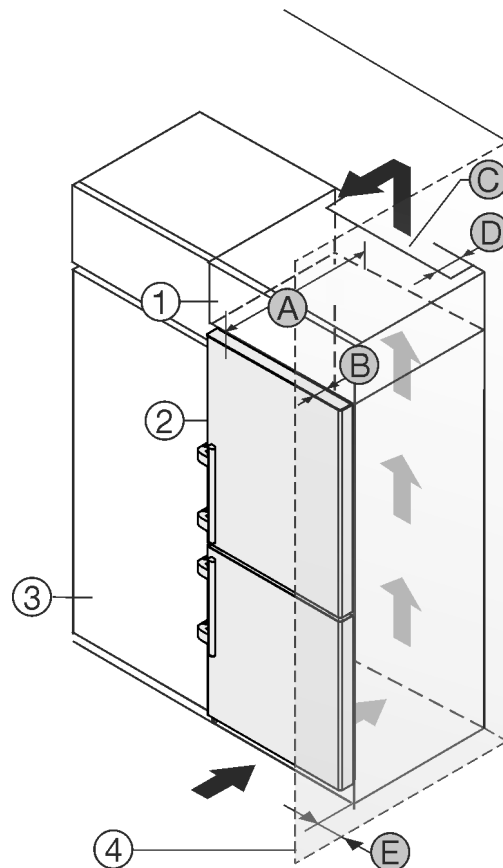

Fig. 2
- (1) Top cabinet * (B) Door depth *
- (2) Appliance * (C) Ventilation cross section *
- (3) Kitchen cabinet * (D) Distance to the back of the appliance *
- (4) Wall * (E) Distance to the side of the appliance *
- (A) Appliance depth *
You can place the appliance directly beside the kitchen cabinet *Fig. 2 (3)*.*
There must be a ventilation shaft at the depth *Fig. 2 (D)* of the back of the top cupboard over the entire width of the top cupboard.*
The ventilation cross-section *Fig. 2 (C)* must be maintained under the ceiling.*
If the appliance is set up with the hinges next to a wall *Fig. 2 (4)*, the distance between the appliance and the wall must be at least 57 mm. This is how far the handle protrudes when the door is open.*
In order to be able to fully open the door, the appliance must protrude by the depth of the door *Fig. 2 (B)* from the front of the kitchen cabinet. The appliance may protrude further depending on the depth of the kitchen cabinets *Fig. 2 (3)* and whether wall spacers are used.*